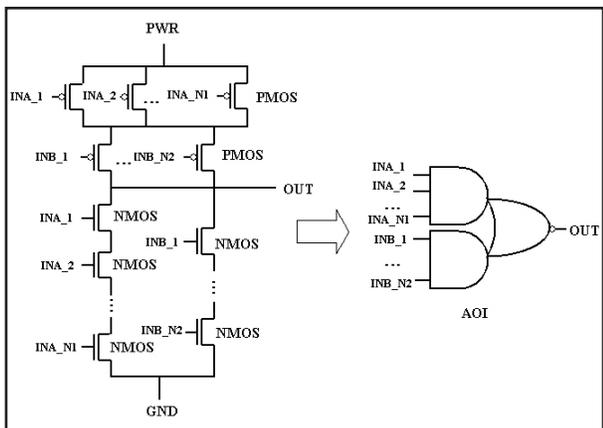

Figure 6. AOI_N1_N2
- **AOI_N1_..._NK** — CMOS AND-OR-Invert logical configuration represented by K AND elements with N1, N2, ..., NK inputs in each, accordingly, and OR-Invert block (Figure 6)
The input terminals inside each AND configuration of AOI gate are swappable, for example in Figure 6 the inputs INA_1, INA_2, ..., INA_N1 are swappable, and the inputs INB_1, ..., INB_N2 can be swapped. Also, the groups of PMOS transistors connected in parallel are interchangeable. So the parallel transistors connected to INB_1, ..., INB_N2 nets can be placed above the group of transistors connected to INA_1, INA_2, ..., INA_N1.